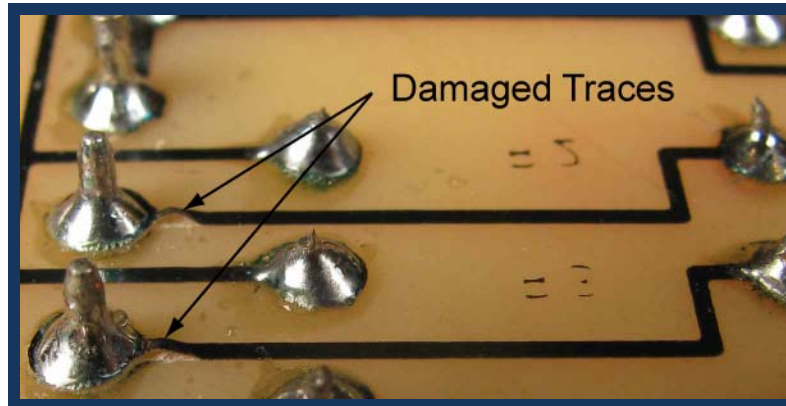

Figure 10: Traces Damaged by Bending 1/32" Printed Circuit Board
- We recommend 1/16" thickness for the PCB to avoid damage to the traces when you are attaching the control wires to the connector terminal blocks. In Figure 10, the traces were compromised when the 1/32" thick board bent while attaching the control wires.